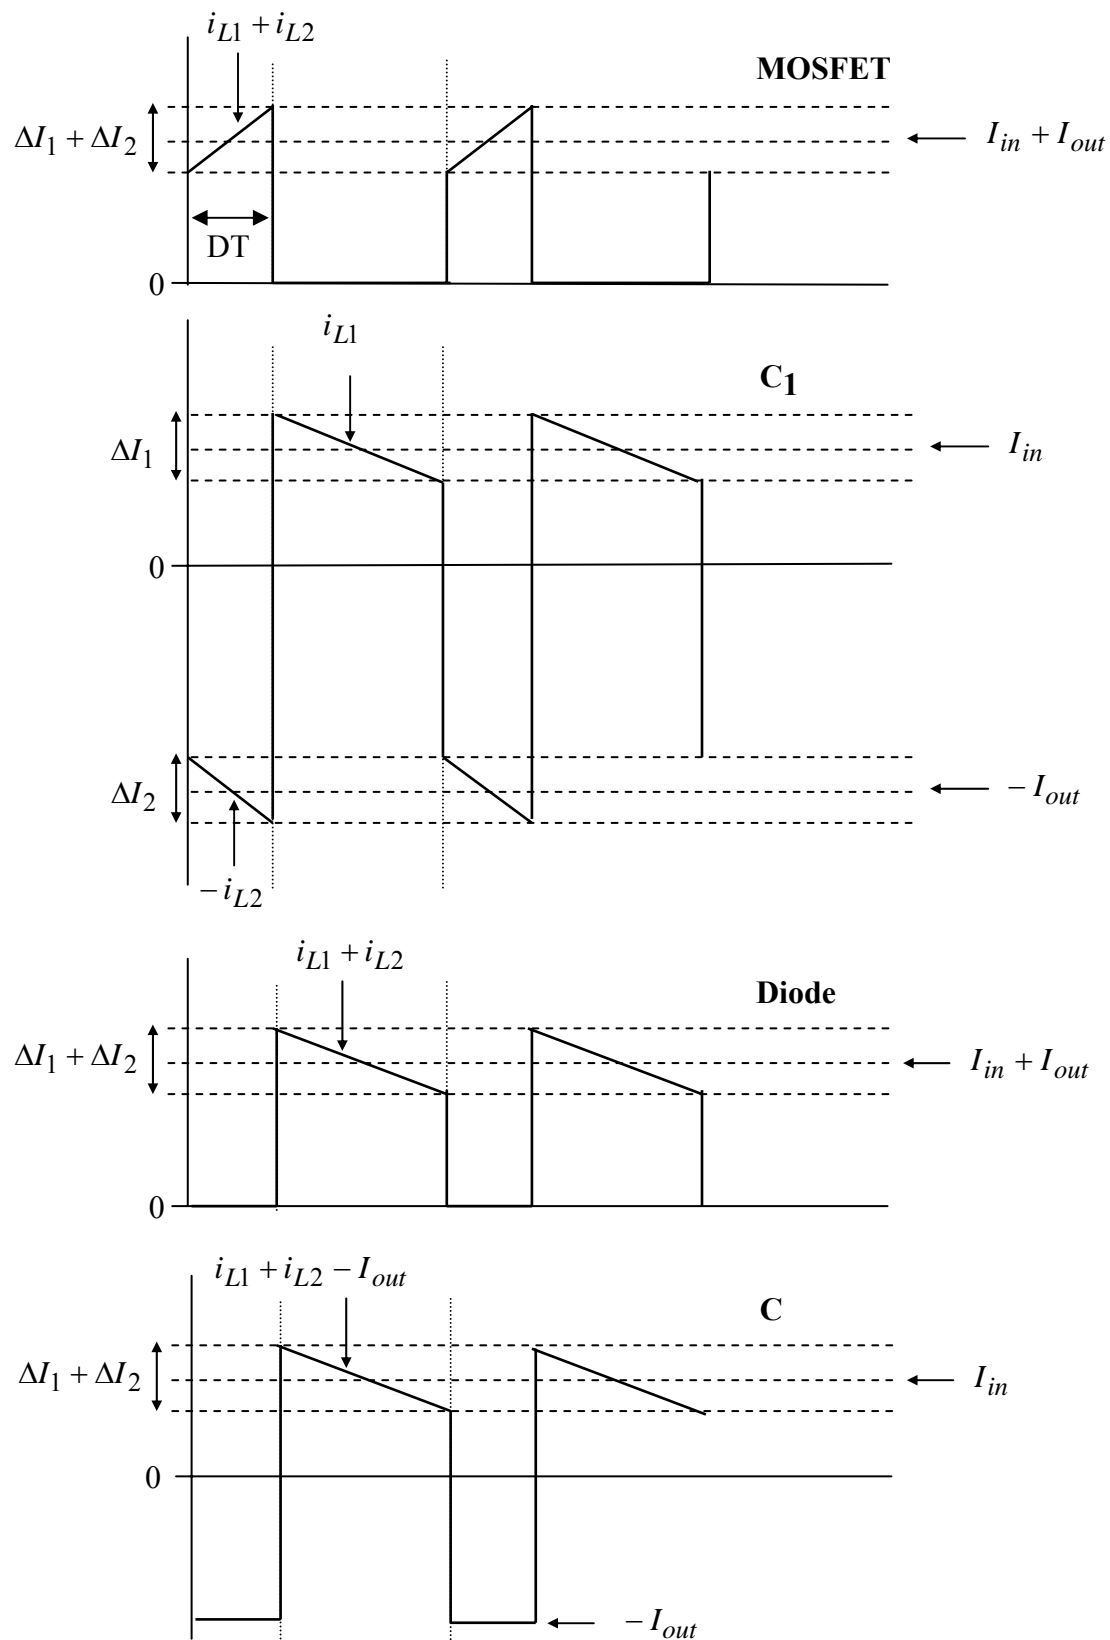

Figure 8. Current Waveforms for MOSFET, Capacitors, and Diode in Continuous Conduction
Continuous current waveforms for the MOSFET, the capacitors, and the diode in continuous conduction are shown in Figure 8 on the following page. Corresponding waveforms for the inductors were shown previously in Figures 4 and 6.
For the MOSFET and diode, assuming large worst-case D , and using Figure 8,
For C_1 and C , using Figure 8,
The maximum ripple voltage calculation for output capacitor C follows from Figure 8 and is the same as for the boost converter, namely
Comparing the current graphs for C_1 and C in Figure 8 during the DT “switch closed” period, it can be seen graphically that the ripple voltage on C_1 and C are the same, i.e. Equation (22).